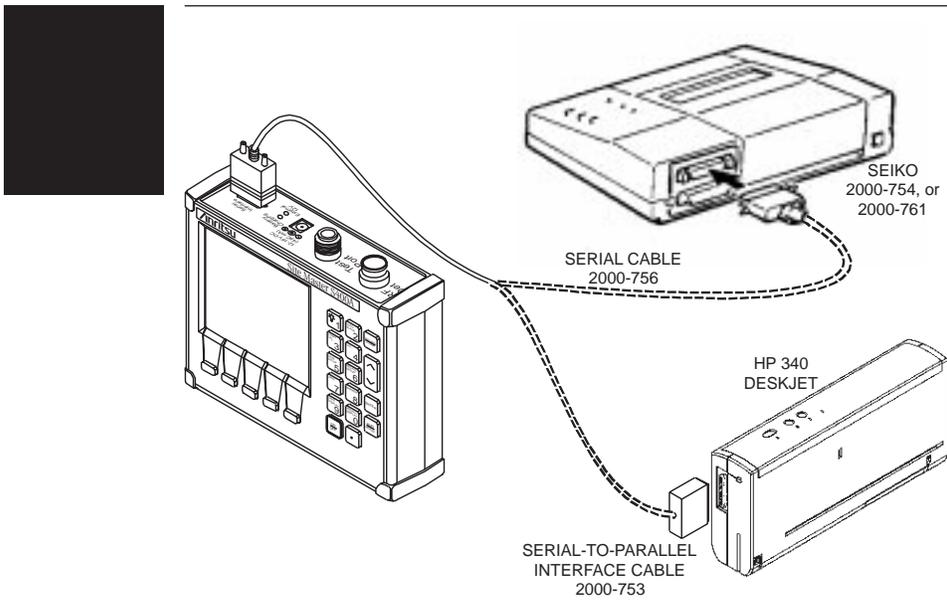

Figure 2-9. Printer Setup
Printing is accomplished with any of the following printers: the Seiko DPU-414 thermal printer or the Hewlett Packard DeskJet 340 ink jet printer. Figure 2-9 shows a setup diagram for these two types of printers.
- Step 1.** Connect the printer as shown in Figure 2-9.